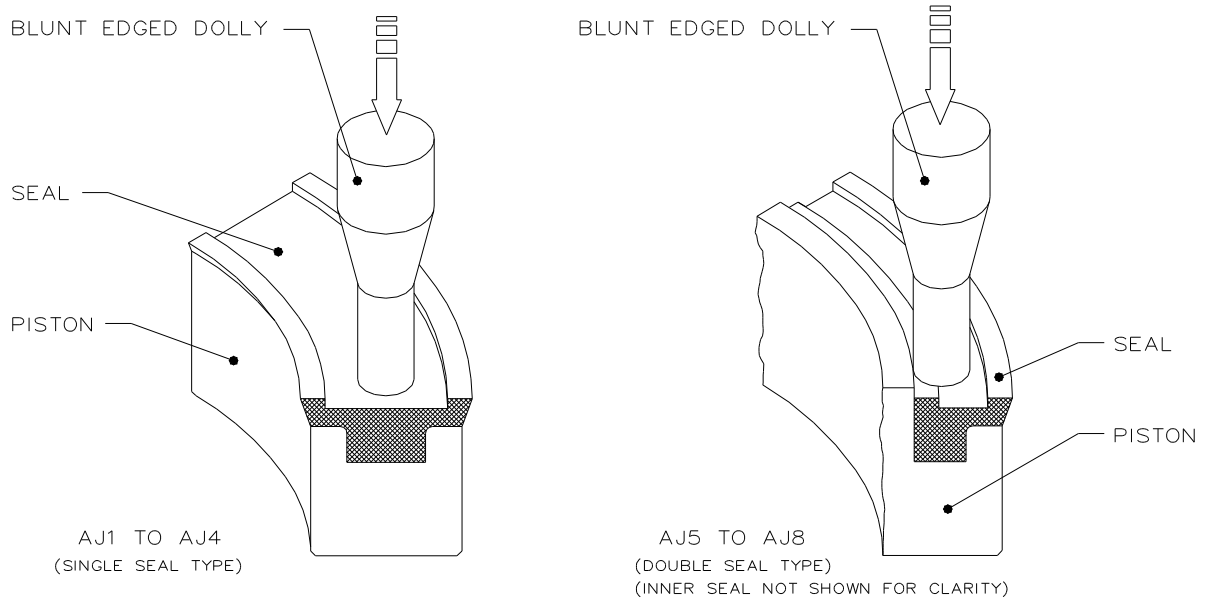

FIG. 8B : ENGAGING THE SEAL RETAINING CLIP
- d) Engage the seal retaining clip by pushing the seal down around its periphery using a blunt edged dolly in the position shown in fig 8B. A 'click' will be sensed when the seal fully engages.